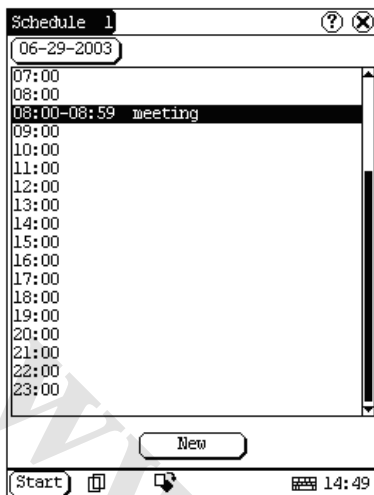

Figure 4-31
- 3) In the list box in the middle of the interface, all schedules on that day corresponding to the Date button will be displayed. (See Figure 4-31)